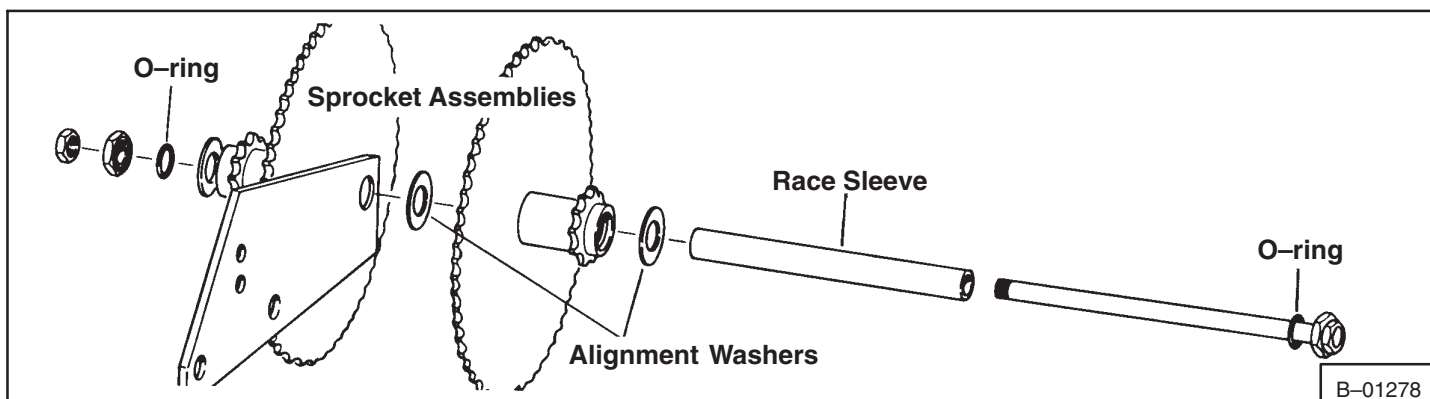

Fig. 98 Lower Jackshaft Breakdown
5. There may be several alignment washers on either side of the sprocket assemblies (Fig. 98). Check for them as you put the jackshaft through. Note how many there are and where they are located. When installing the lower jackshaft check the sprocket alignment and, if necessary, relocate the washers to obtain correct alignment.